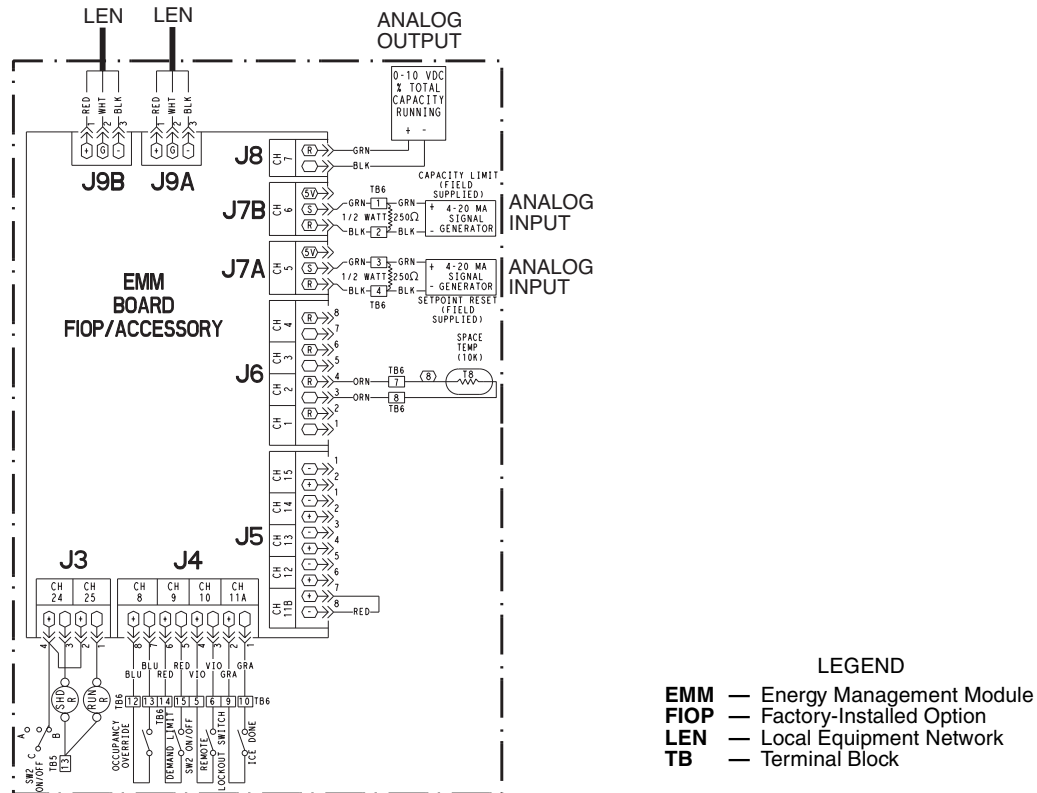

Fig. 5 — EMM Board Wiring
- Connect the other ends of the harness from Step 7, marked TB6-1 through 15, to the TB6 terminal block. See Fig. 5.